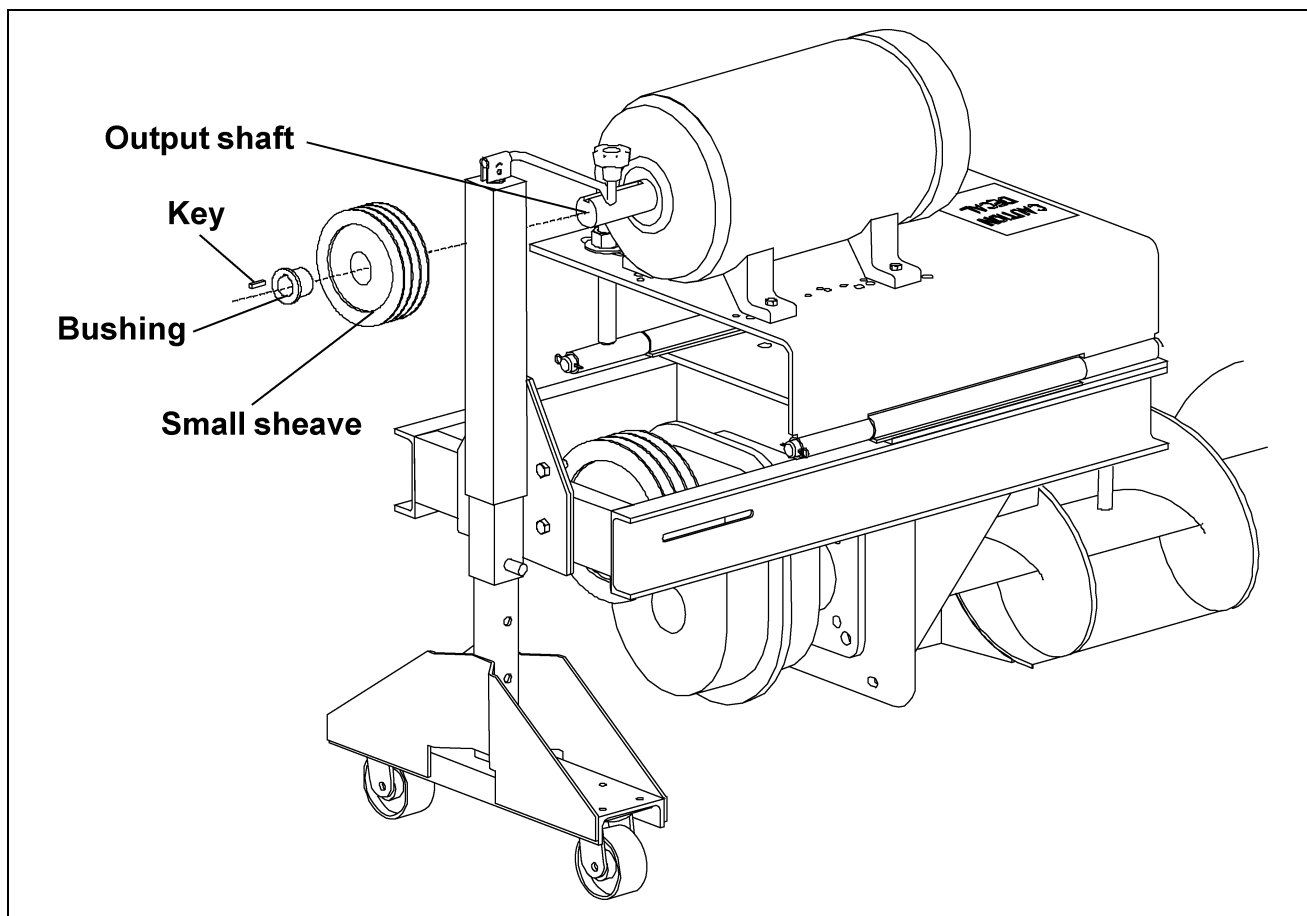

Figure 5AG
D. Slide the bushing and small sheave onto the motor shaft with a key. (See Figure 5AG.)
E. Align the sheaves with a straight edge to assure proper alignment and tighten the screws on the bushings. (See Figure 5AG.)